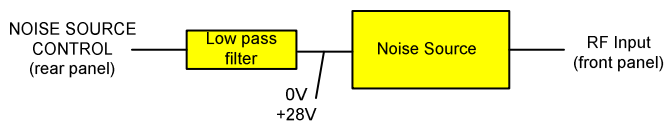

Fig. 2-73: Preparation for calibration
- Connect the noise source to the RF input of the R&S ZVL-K1 (see Fig. 2-73).
- Provide the voltage supply for the noise source by connecting it to the +28 V connector of the R&S ZVL-K1 (labeled NOISE SOURCE CONTROL on the rear panel of the instrument) via a coax cable and the lowpass filter. Connect the lowpass filter between the noise source itself and the NOISE SOURCE CONTROL connector of the R&S ZVL-K1 as shown in Fig. 2-73.